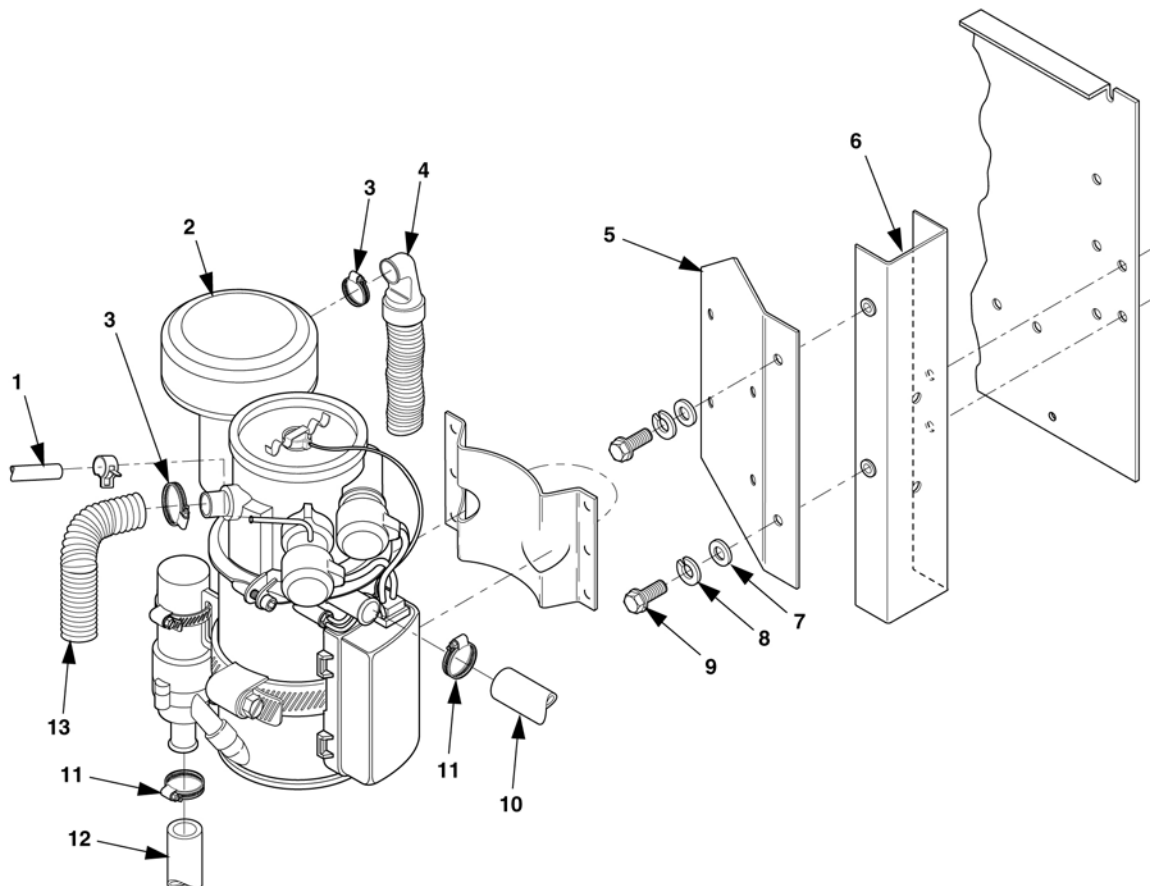

Figure 4-21. Heater Assembly Maintenance.
3. Disconnect fuel line (1), Figure 4-21, from heater and drain any fuel from hose into a suitable container.
5. Loosen screw clamps (3), Figure 4-21, and remove exhaust hose (13) from heater (2).
6. Position a suitable container under heater to catch coolant from hose, and loosen screw clamps (11) to disconnect coolant inlet hose (12) and outlet hose (10) from heater (2).
7. Remove two screws (9), lock washers (8), flat washers (7), and heater (2), with mounting plate (5), from mounting bracket (6). Loosen heater brace from top cover.